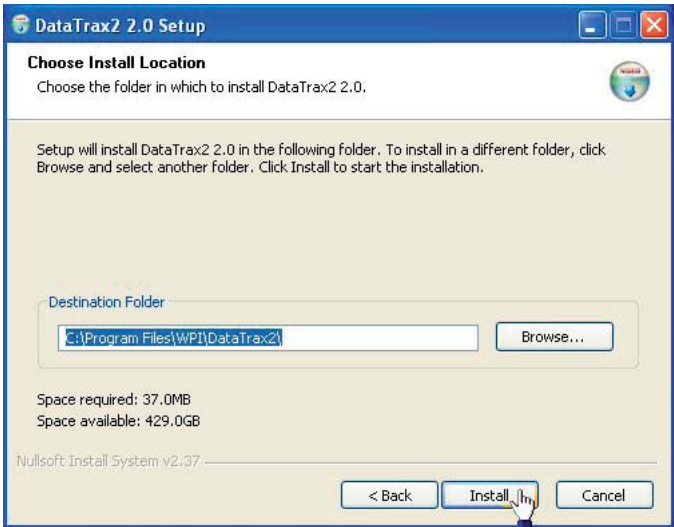

Fig. 22—Install location
4. Verify that all three components (Main Section, Lab Experiments, and Drivers) are selected, and click the **Next** button. The wizard will ask where to install the program files (**Fig. 22**).